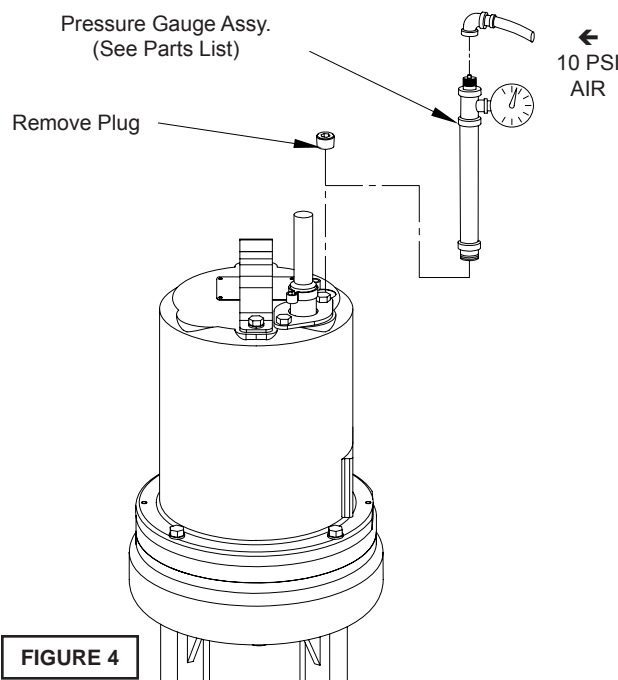

FIGURE 4
Pumps that have been disassembled, Motor Housing - If the pump has been disassembled, the oil should be drained before a pressure test, as described in section F-1.1. Remove pipe plug (23) from motor housing (5). Apply pipe sealant to pressure gauge assembly and tighten into hole (See Figure 4). Pressurize motor housing to 10 P.S.I. Use soap solution around the sealed areas and inspect joints for "air bubbles".
- The pressure test may be done with the oil at its normal level. Remove pipe plug (27) from motor housing (5). Apply pipe sealant to pressure gauge assembly and tighten into hole (see Figure 4). Pressurize motor housing to 10 P.S.I. Use soap solution around the sealed areas above the oil level and inspect joints for "air bubbles". For sealed areas below the oil level, leaks will seep oil.